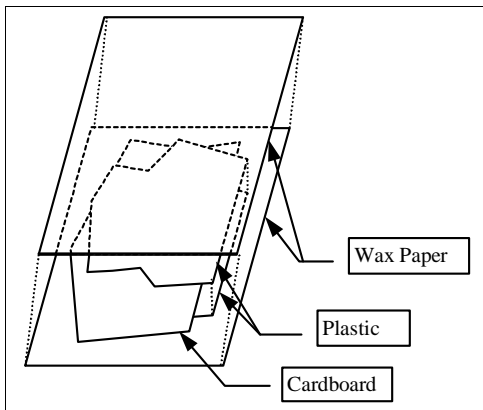

Figure 4. The test stack
4. Preheat the iron to the "wool" setting. Create a test stack of the following layers (as seen in Fig. 4): wax paper, plastic scrap, cardboard scrap, plastic scrap and wax paper. Line up one set of edges of the plastic scraps and let them overhang the cardboard by about $\frac{1}{4}$ ".